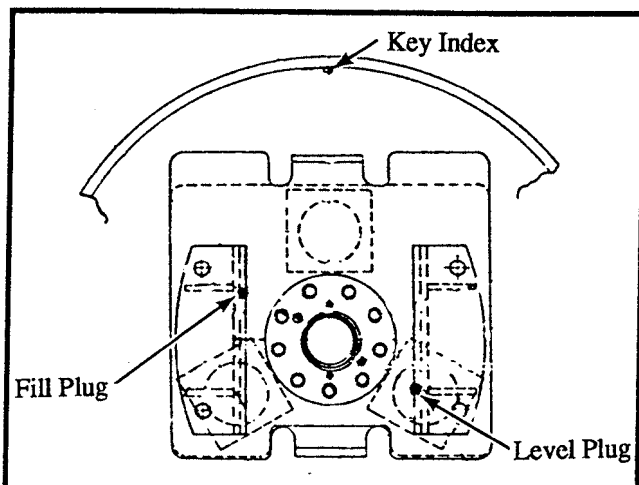

Figure 12-3. Eccentric Fill Plug Location
5. When the oil has completely drained, position the drum so the key index is in the 12 o'clock position. This positions the fill plug at the top while the level plug is opposite and slightly below the centerline. Refer to Figure 12-3.